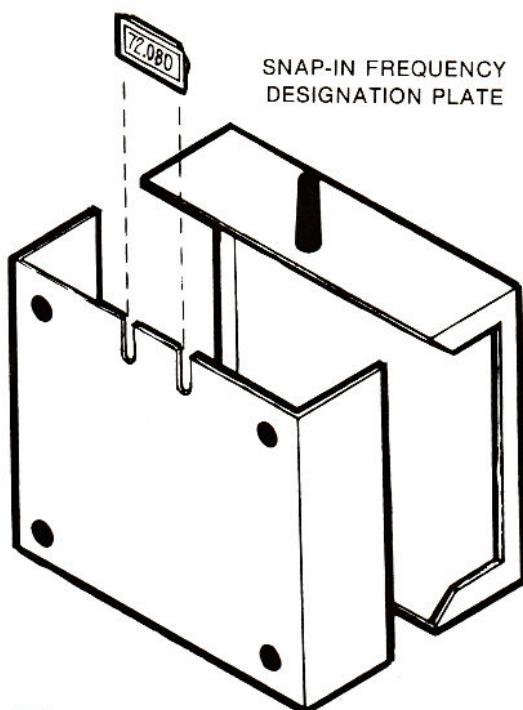

FIGURE 9
8. Change the snap-on frequency designation plate on the transmitter back cover to the proper operating frequency (Fig. 9)